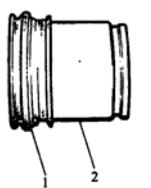

FIG.16-29 1-Cover dust;2-Piston
(1) Before inserting piston into cylinder, boot must be fitted in piston. (FIG.16-29)